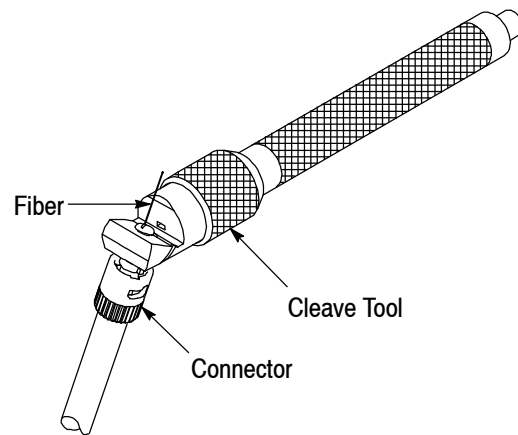

Figure 14
1. Insert the connector into the side of the cleave tool so that the protruding fiber is guided through the slot in the tool. See Figure 14.